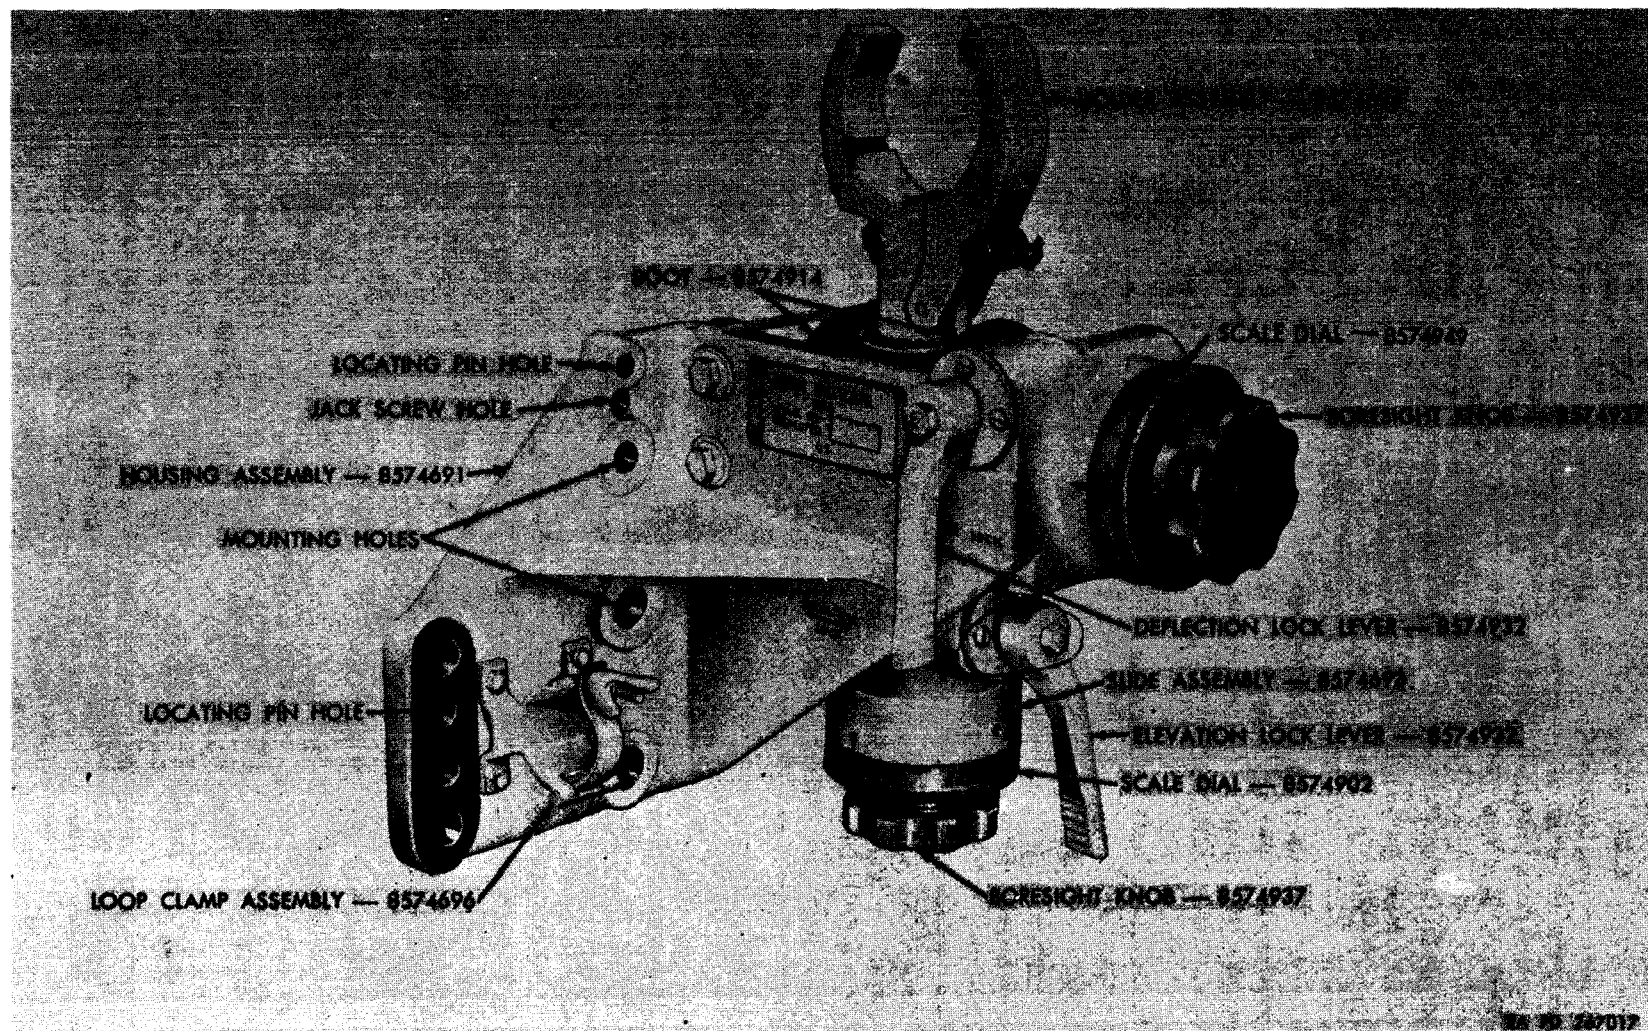

Figure 2. Telescope mount M114 (T199)
a. *General.* Telescope mount M114 (T199) (figs. 2 and 3) supports articulated telescope M105C for use as the secondary direct fire control system in the 105-mm gun full-tracked combat tank M60.